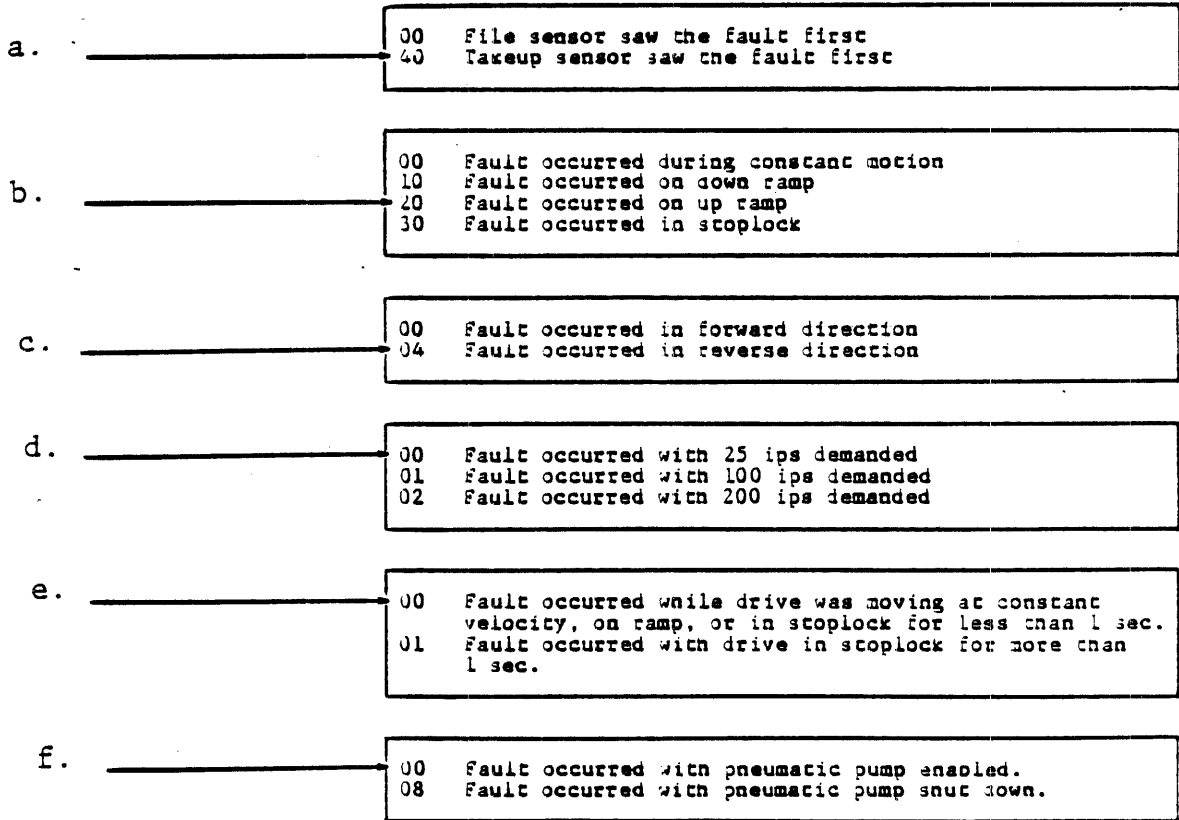

Figure 6-3. SUB-FAULT CODE INTERPRETATION - EXAMPLE 1
1. Example 1 - Fault Code 25, Sub-Fault Code 64 (Figure 6-3)